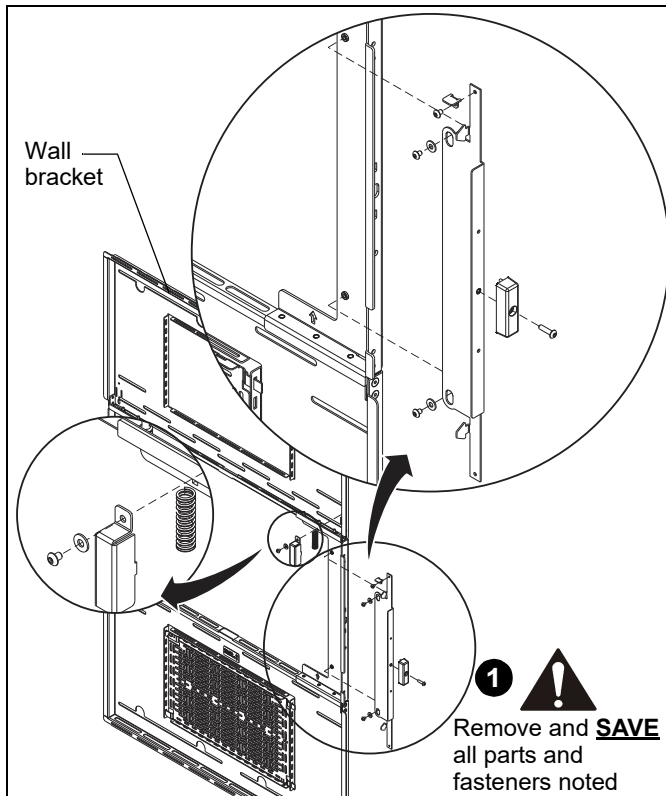

Figure 10
1. Remove **AND SAVE** the hardware on the latch (right) side of the wall bracket. (See Figure 10)